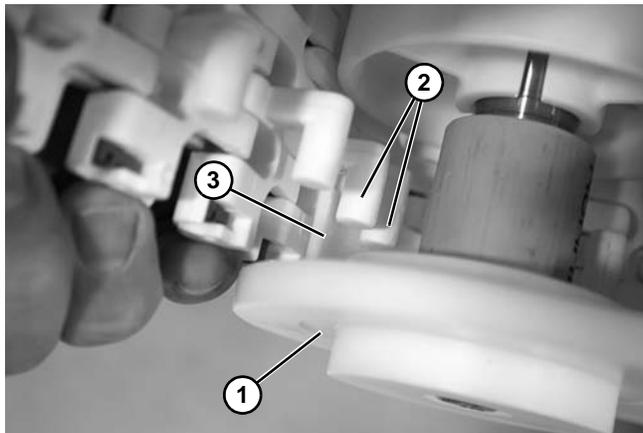

Figure 10
3. Wrap the belt around the idler tail (**Figure 10, item 1**). Feed the belt through the idler tail with belt tabs (**Figure 10, item 2**) riding on the inside of the headplate channel (**Figure 10, item 3**).